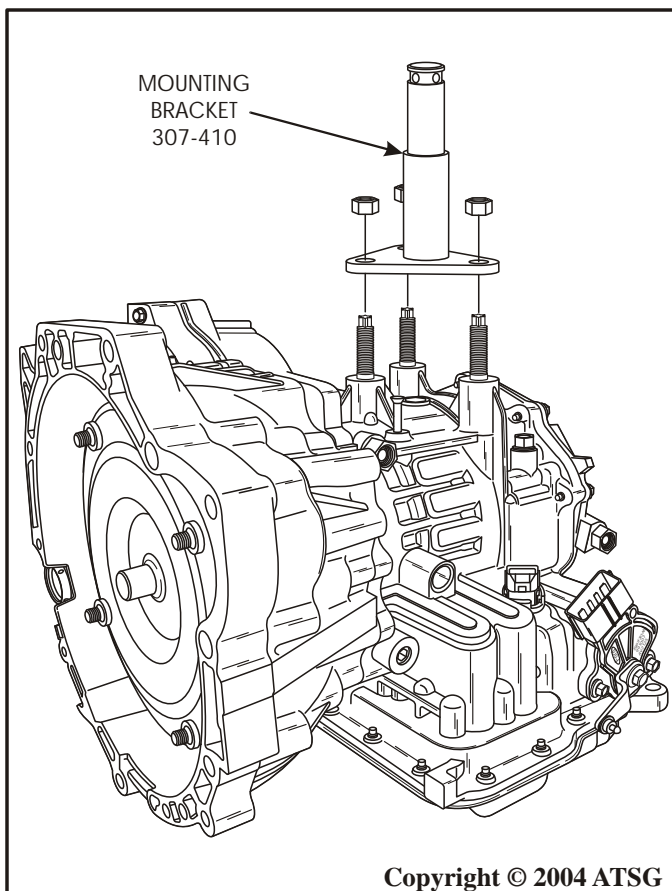

Figure 19
7. Install the Mounting Bracket 307-410 onto the transaxle, as shown in Figure 19, and install into a suitable bench mount that will allow you to rotate the transaxle.